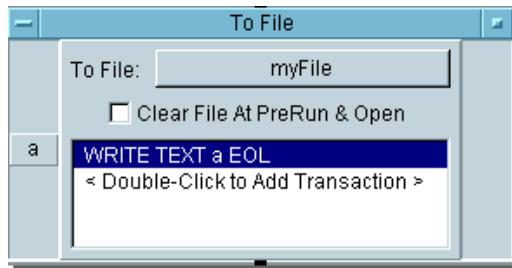

Figure 5-3. The To File Object
I/O transactions are used by VEE to communicate with instruments, files, strings, the operating system, interfaces, other programs, Rocky Mountain Basic, and printers. For example, look at the To File object in Figure 5-3.
The To File object shown in Figure 5-3 sends data to the specified file myFile. It can include inputs, called transactions, to accept data from a program. For example, this To File object includes the transaction WRITE TEXT a EOL. When you double-click the transaction, an I/O Transaction dialog box appears as shown in Figure 5-4, which configures the specific transaction statement.
2. Double-click in the transaction area to display the `I/O Transaction` dialog box. (Refer to Figure 5-3 and Figure 5-4, if necessary.)